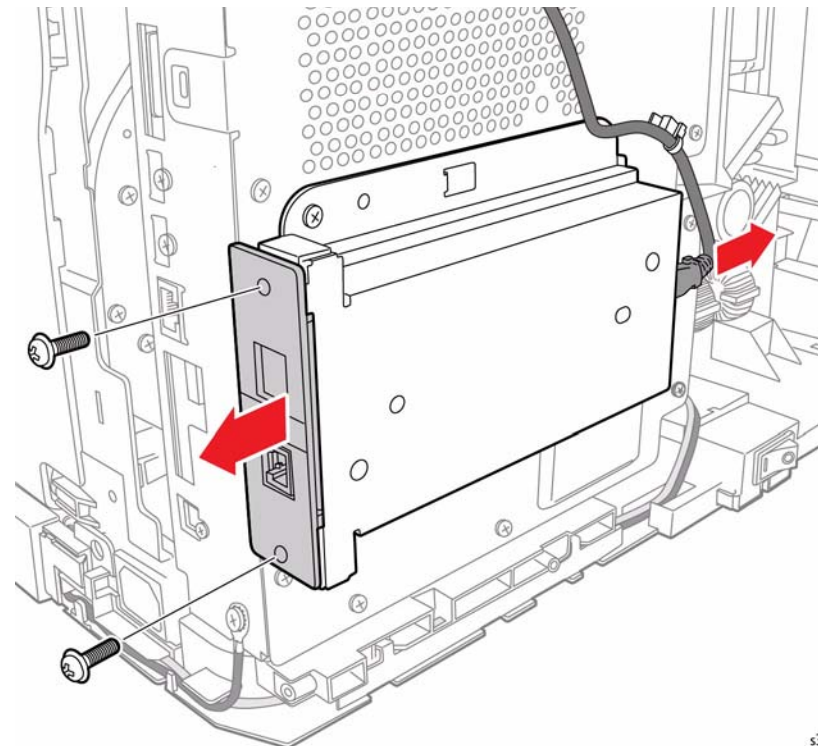

Figure 1 Remove the Fax Board
6. Refer to Figure 1 to locate and remove 2 screws (silver, M3, 6mm) that secure the FAX Board to the ESS housing cover and disconnect the FAX Cable from the IP Board to remove the FAX Board.